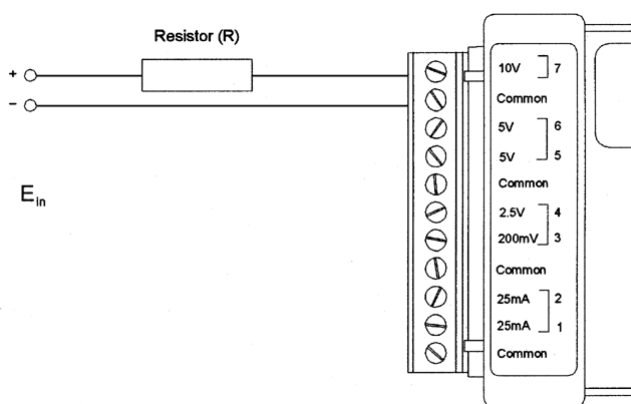

Figure 7-3: Extended Voltage Range on 10V Channel
The 10 volt channel can be modified to span higher ranges (greater than 10 volts DC) by adding a single resistor to the "10V" terminal shown in Figure 7-3. The value of the resistor (R) can be calculated by following the formula below, based on the desired voltage input range (Ein):
The 5 volt and 2.5 volt channels can be modified to span higher ranges (greater than 5 and 2.5 volts DC respectively) by adding a single resistor, in the same way as shown for a 10V channel in Figure 7-3 to the "5V" and "2.5V" terminals. The value of the resistor (R) can be calculated by the following equations, based on the desired voltage input range ( $E_{in}$ ). A final Range can be determined to write a custom equation in TrendReader software.